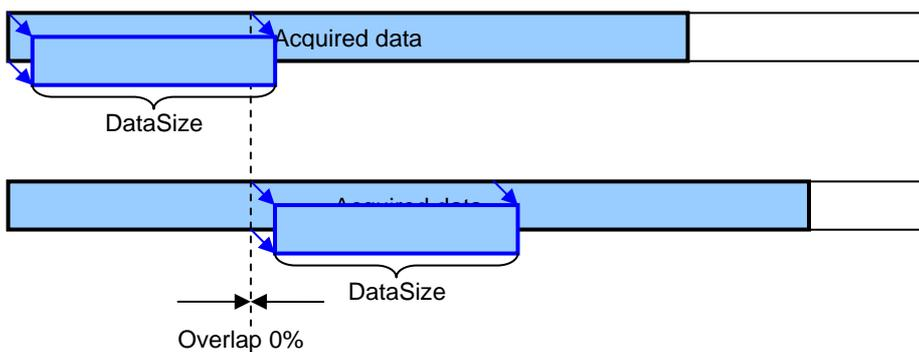
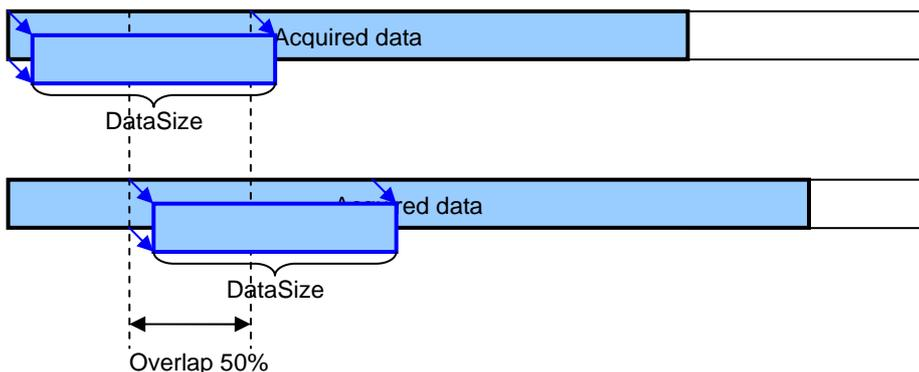

Figure 102 AType set to ctOverlap, Overlap set to 0
Figure 103 AType set to ctOverlap, Overlap set to 50
1... ctOverlap... for reading blocks (size specified by “BlockSize”) of data; the percentage of an overlap of the data blocks can be specified by Overlap; Figure 102 illustrates two subsequent calls of GetDataBlocks when AType is set to ctOverlap and Overlap is set to 0%. In Figure 103 Overlap is set to 50%.
Overlap defines how much the data blocks read by two subsequent calls of GetDataBlocks or GetDataBlocks1 should overlap each other, when AType is set to ctOverlap. See Figure 102 and Figure 103 for illustration.